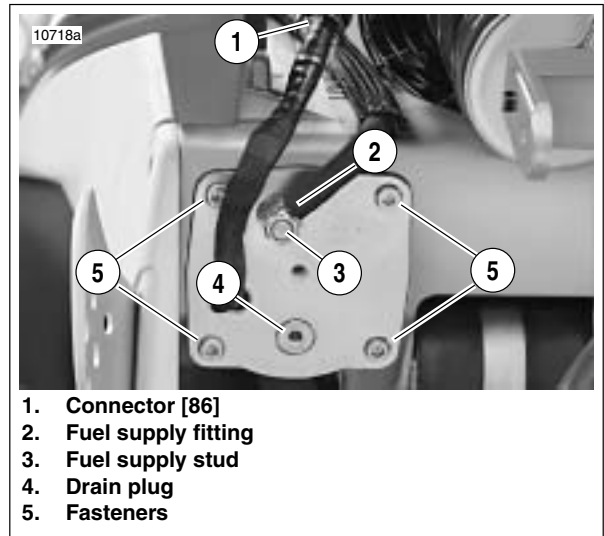
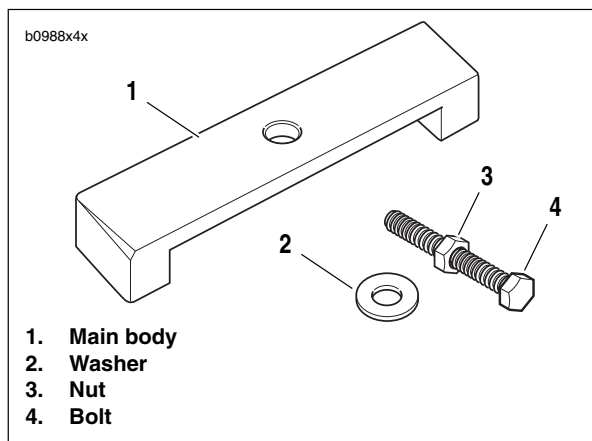
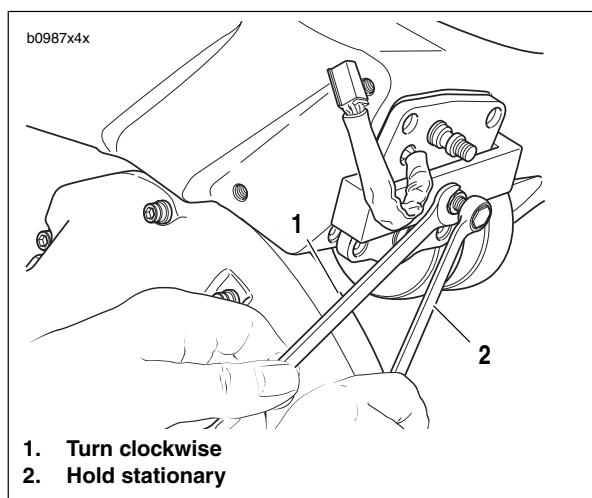

Figure 4-86. Fuel Pump Installation
Figure 4-87. Fuel Pump Puller
Figure 4-88. Fuel Pump Removal (Typical)
- a. See Figure 4-86. Disconnect the 4-place fuel pump connector (1) [86]. Connector is located inside the left rear portion of the fuel tank/frame.
4. See Figure 4-86. Remove fuel line from fuel supply fitting (2).
5. Remove four fuel pump fasteners (5).
6. See Figure 4-87. Assemble fuel pump puller.
- a. Thread nut (3) onto bolt (4).
- b. Slide washer (2) onto bolt.
- c. Insert bolt assembly into hole in main body (1).
7. See Figure 4-88. Place the main body of the fuel pump puller over the fuel pump assembly.